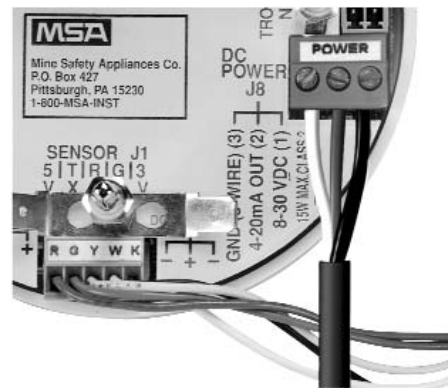

Figure 2
4. Connect 8 to 30 VDC power lead to J8-1 (FIGURE 2).
7. Connect the sensor module to J-1 on the main pc board (FIGURE 2).